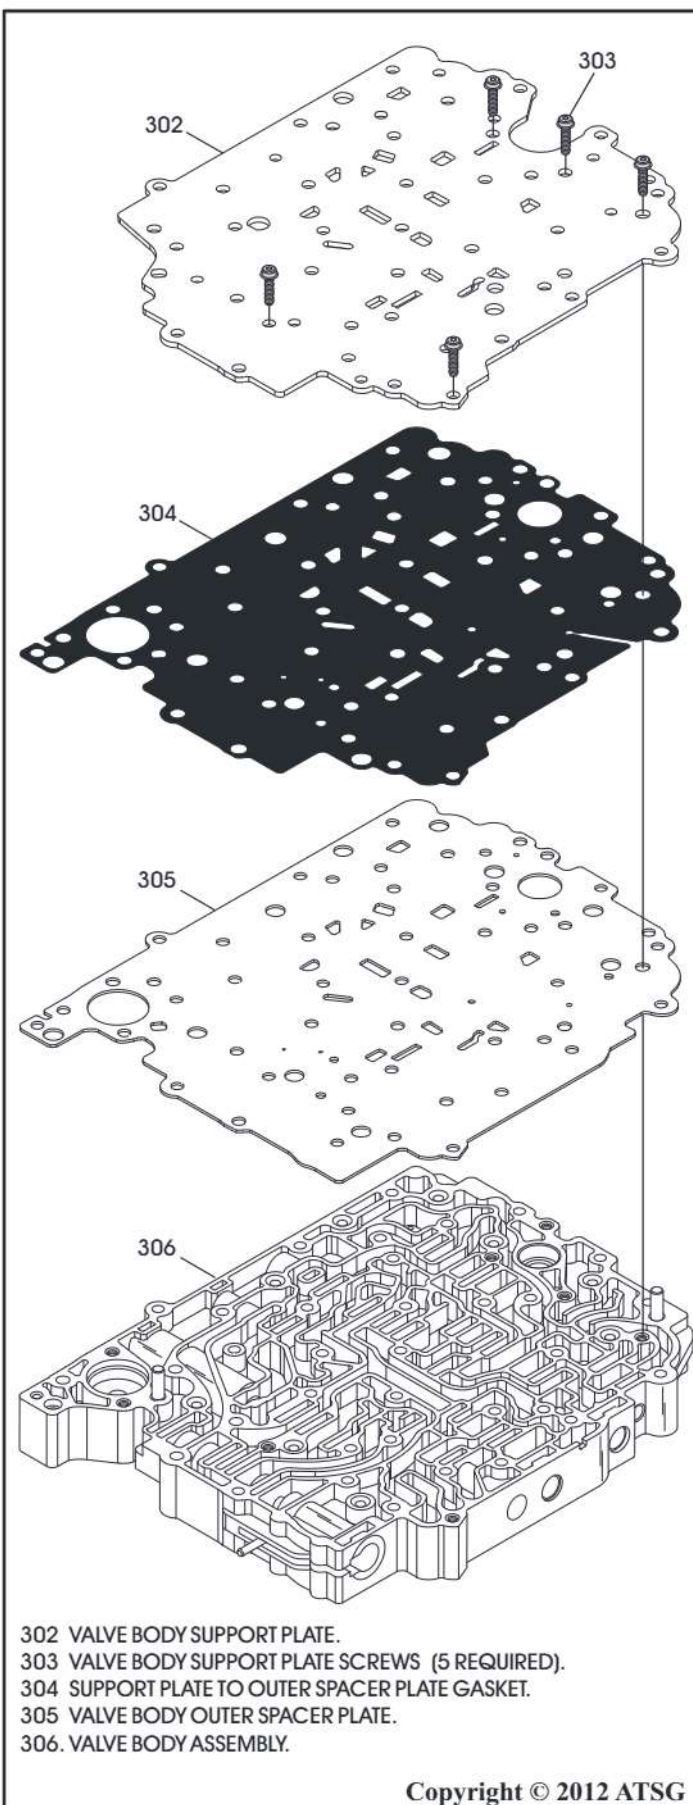

Figure 218
25. Place the completed valve body on a flat work surface, as shown in Figure 218.
26. Install the outer valve body spacer plate over the alignment dowels and onto the valve body, as shown in Figure 218.
27. Install new support plate to outer spacer plate gasket over the alignment dowels and onto the spacer plate, as shown in Figure 218.
28. Install the valve body support plate over the alignment dowels and onto the outer spacer plate gasket, as shown in Figure 218.
29. Install the 5 support plate retaining screws in the positions shown in Figure 218.